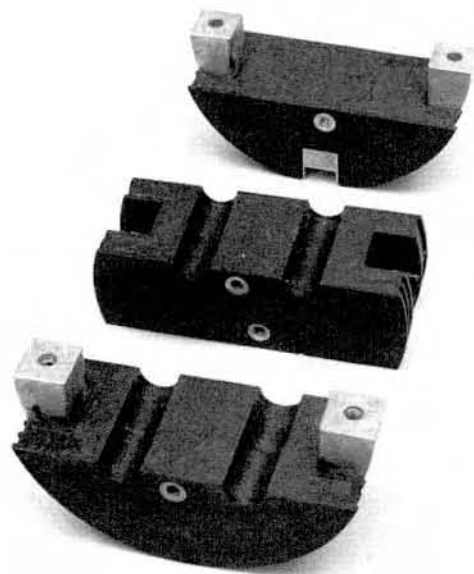

Figure 17
8.01 Apply a thin coat of C-Cement to each inside surface of the end plates as shown in Figure 17.